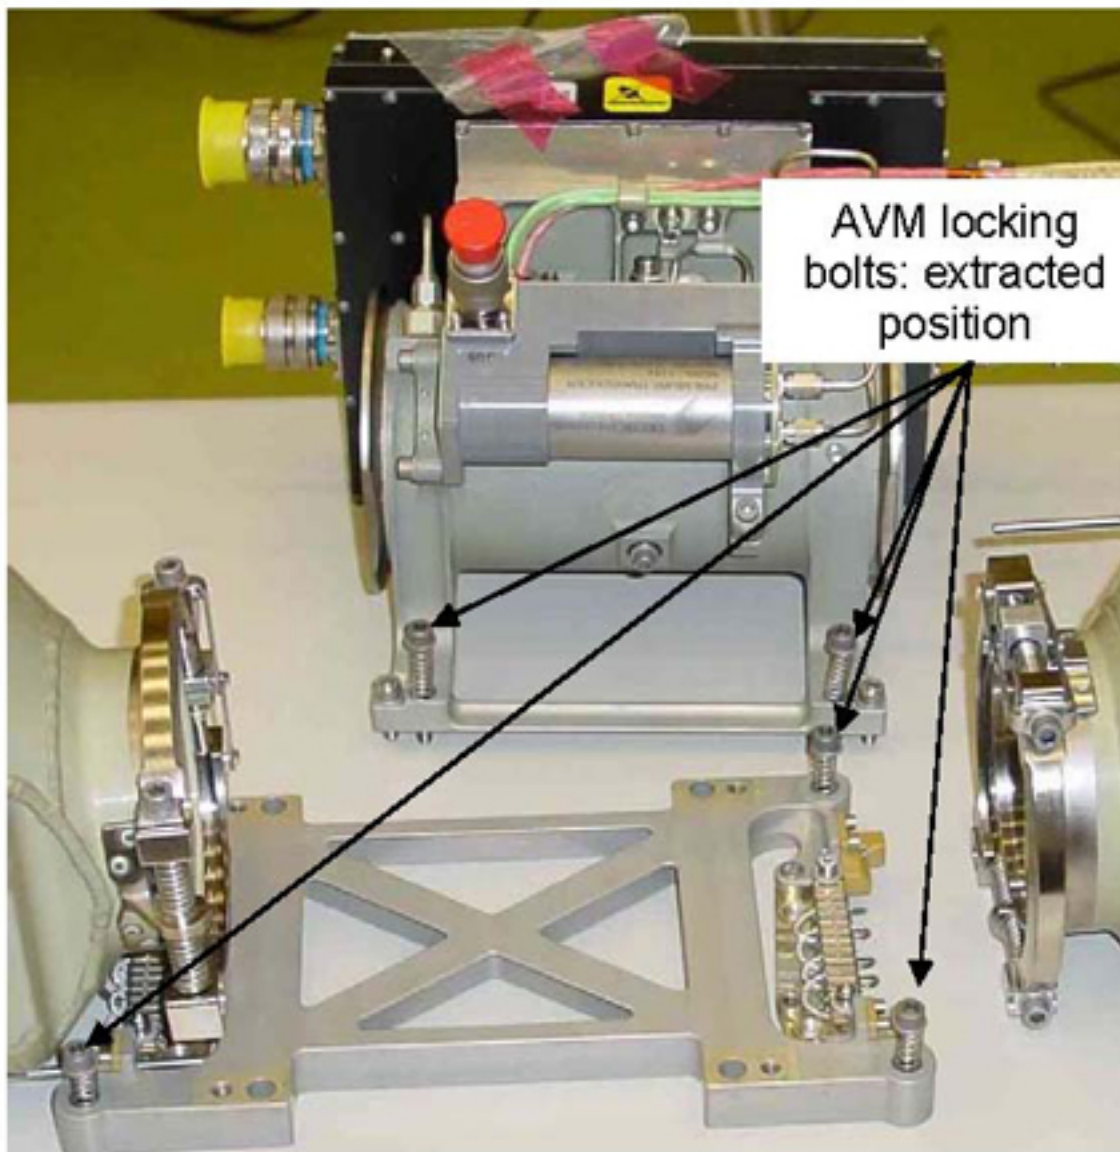

Figure 6. CFA before installation: view of the spring loaded locking bolts
2. The 8 AVM locking bolts are spring loaded. When completely loosened, the bolts are pushed up by the spring. Refer to Figure 6.